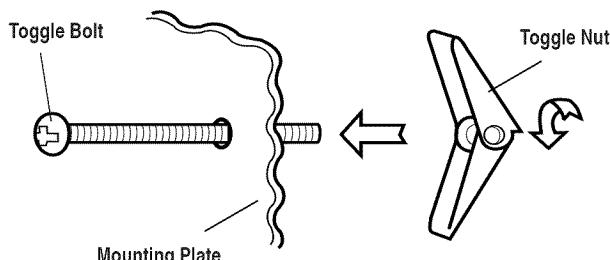

Figure 15
- IMPORTANT** Use the mounting template provided to Use wood screws to attach mounting plate to the stud or studs. Use Toggle Bolts to attach mounting plate through the holes at A, B, C and D UNLESS THOSE HOLES ARE LOCATED ON THE STUD. Insert one Toggle Bolt into A, B, C and D where appropriate (these correspond to holes of the Wall Template) and put the Toggle Nuts onto the Toggle Bolts. See Figure 15. Refer to instructions in Wall Template.